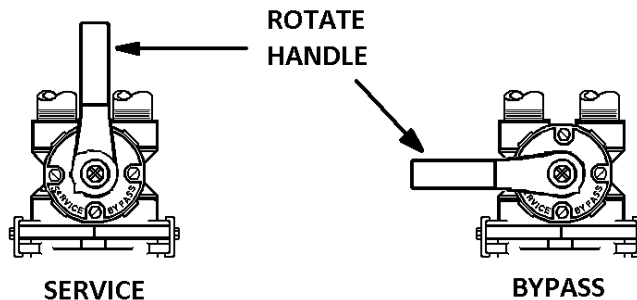

FIGURE 4: Stainless Steel Bypass Valve Operation
- STEP 9:** Place bypass valve in the "Bypass" position (refer to Figures 4 below). Open main supply valve or turn on power to pump on private well systems.
- Refer to Figure 4 (page 5) for appropriate bypass valve operation. Rotate bypass lever of stainless steel bypass $\frac{1}{4}$ of the way to “Service” allowing unit to fill slowly. You should hear water trickling into the mineral tank. Filling the mineral tank in this position will force any trapped air to the drain. **When all air has been purged from the system and only water is running to the drain, slowly open the bypass valve fully to the service position.**